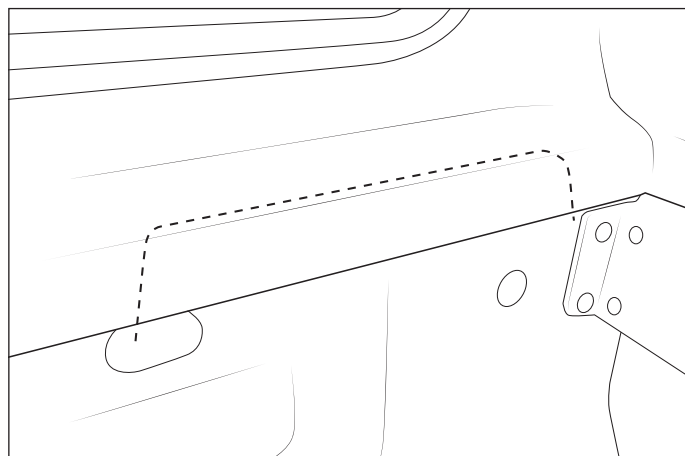

Figure 14
7. The spare tire must sit flush against the bedside. Temporarily place tire into position and mark the inside flange of the bed cap where the tire makes contact (fig. 14).